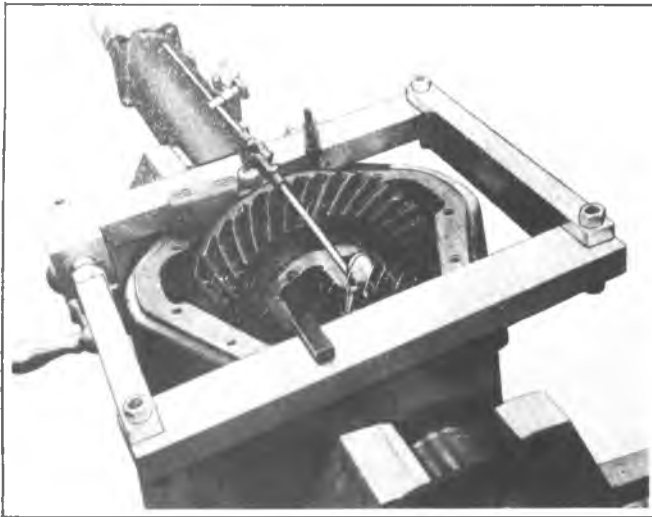

Fig. 2F—Spreading the Carrier
7. Using spreader tool J-24385, and a dial indicator as shown in figure 2F, spread carrier a maximum of .015 inch.